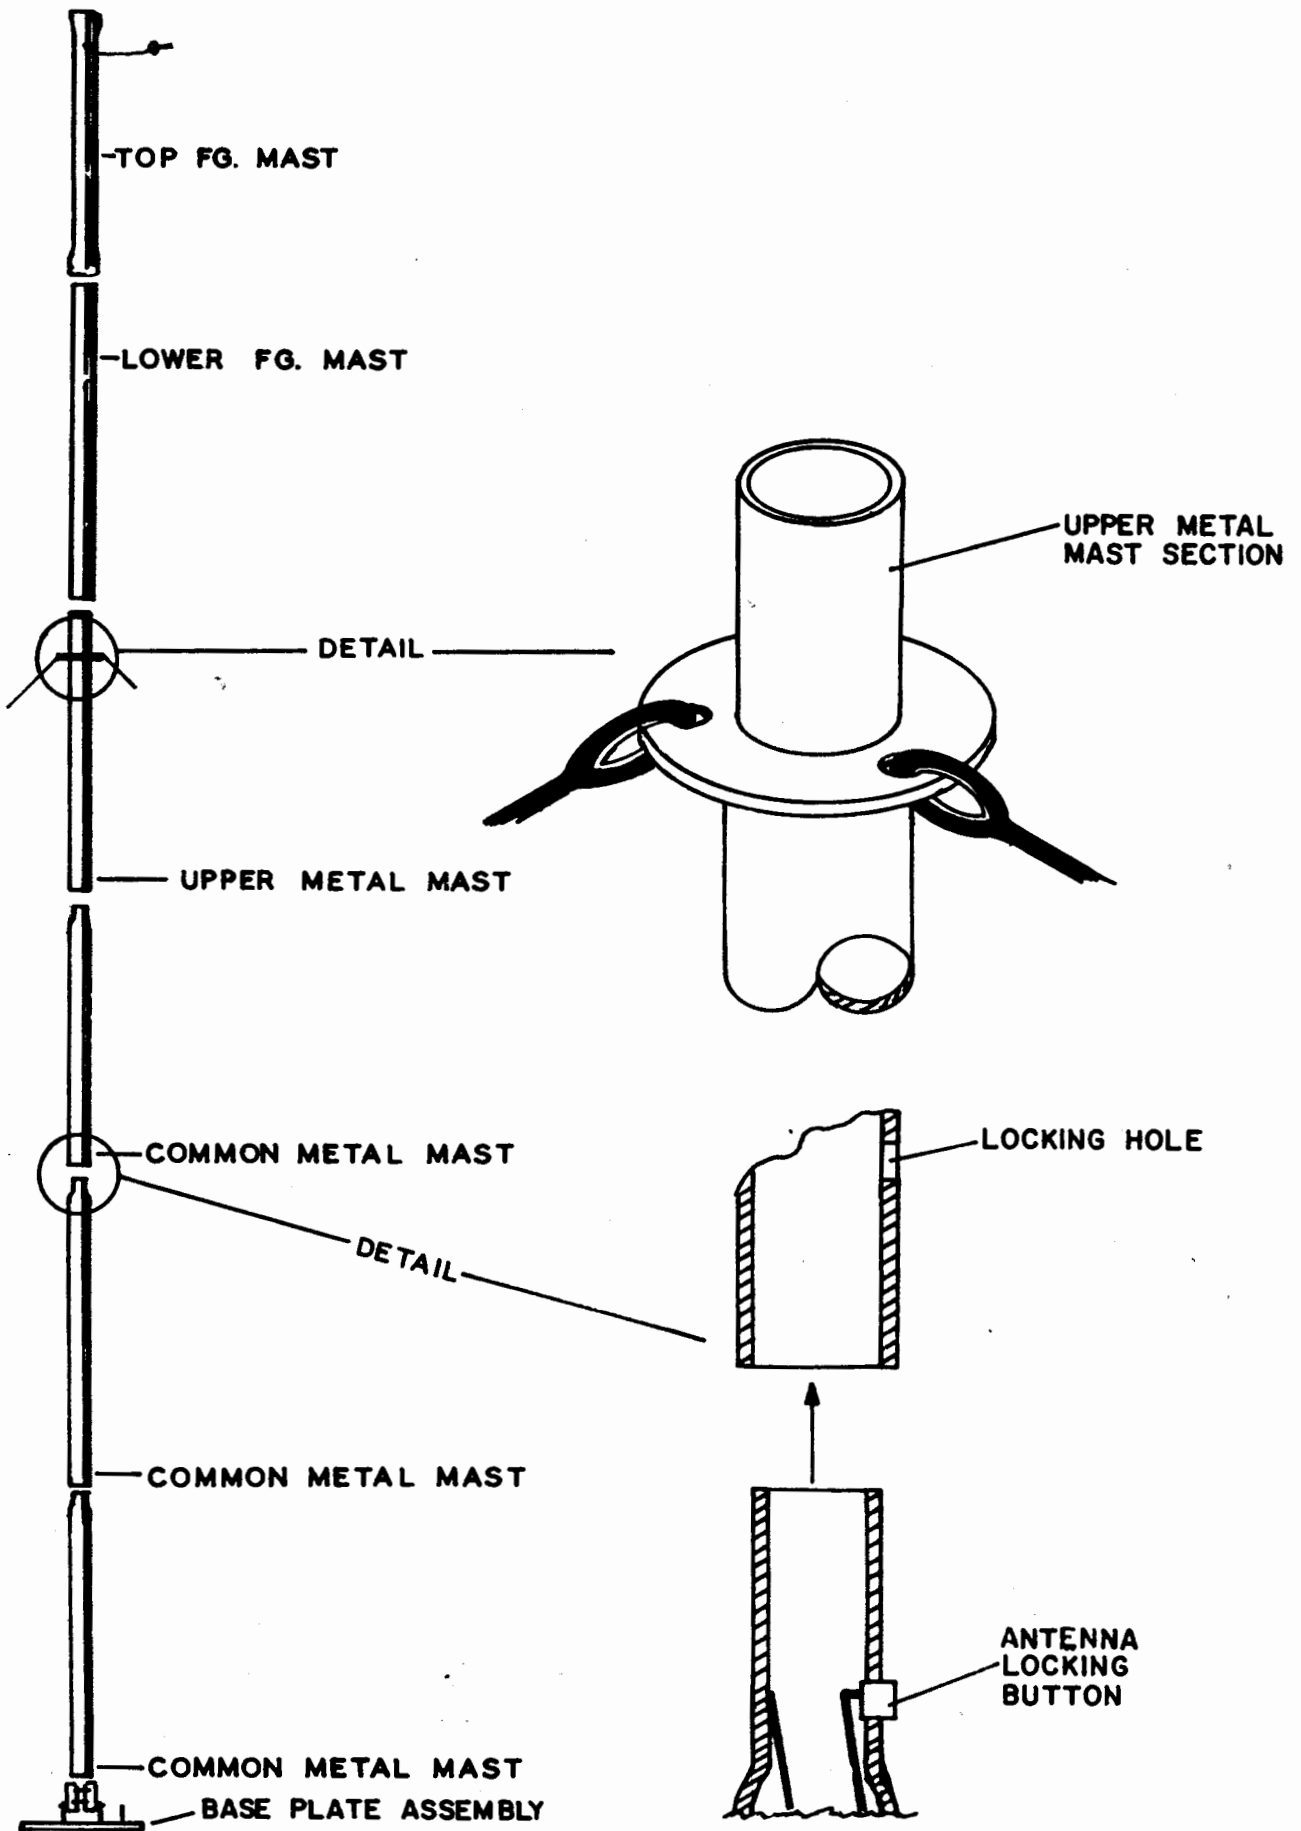

Figure 1-7 Mast Assembly
e. Refer to Figure 1-7 and assemble common metal mast assemblies by inserting tapered end into the bottom of the next tube. Rotate until the notch seats and antenna lock buttons extend through locking holes. Install guy ring over top of upper metal mast section as shown. Layout and assemble fiberglass mast sections making sure antenna locking pin is located at the top of the assembly and attach to upper metal mast assembly.